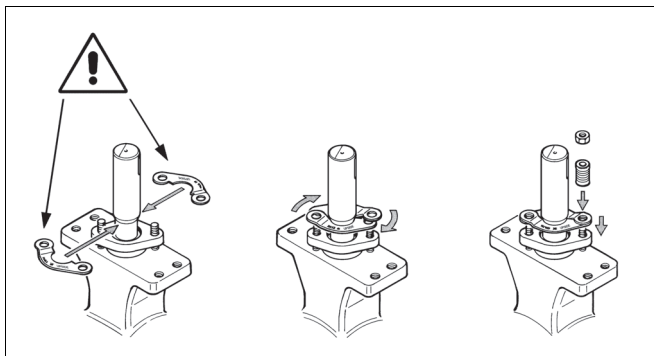

Fig. 11 Mounting the retaining plate
- Unfasten the nuts (25) and remove the disc spring (TA-Luft) sets (43), the retaining plates (42) and the gland (9).
- Remove old packing rings (20). Do not damage the surfaces of the packing ring counterbore and shaft.
- Mount the retaining plates with the text UPSIDE on top (see Fig. 11).